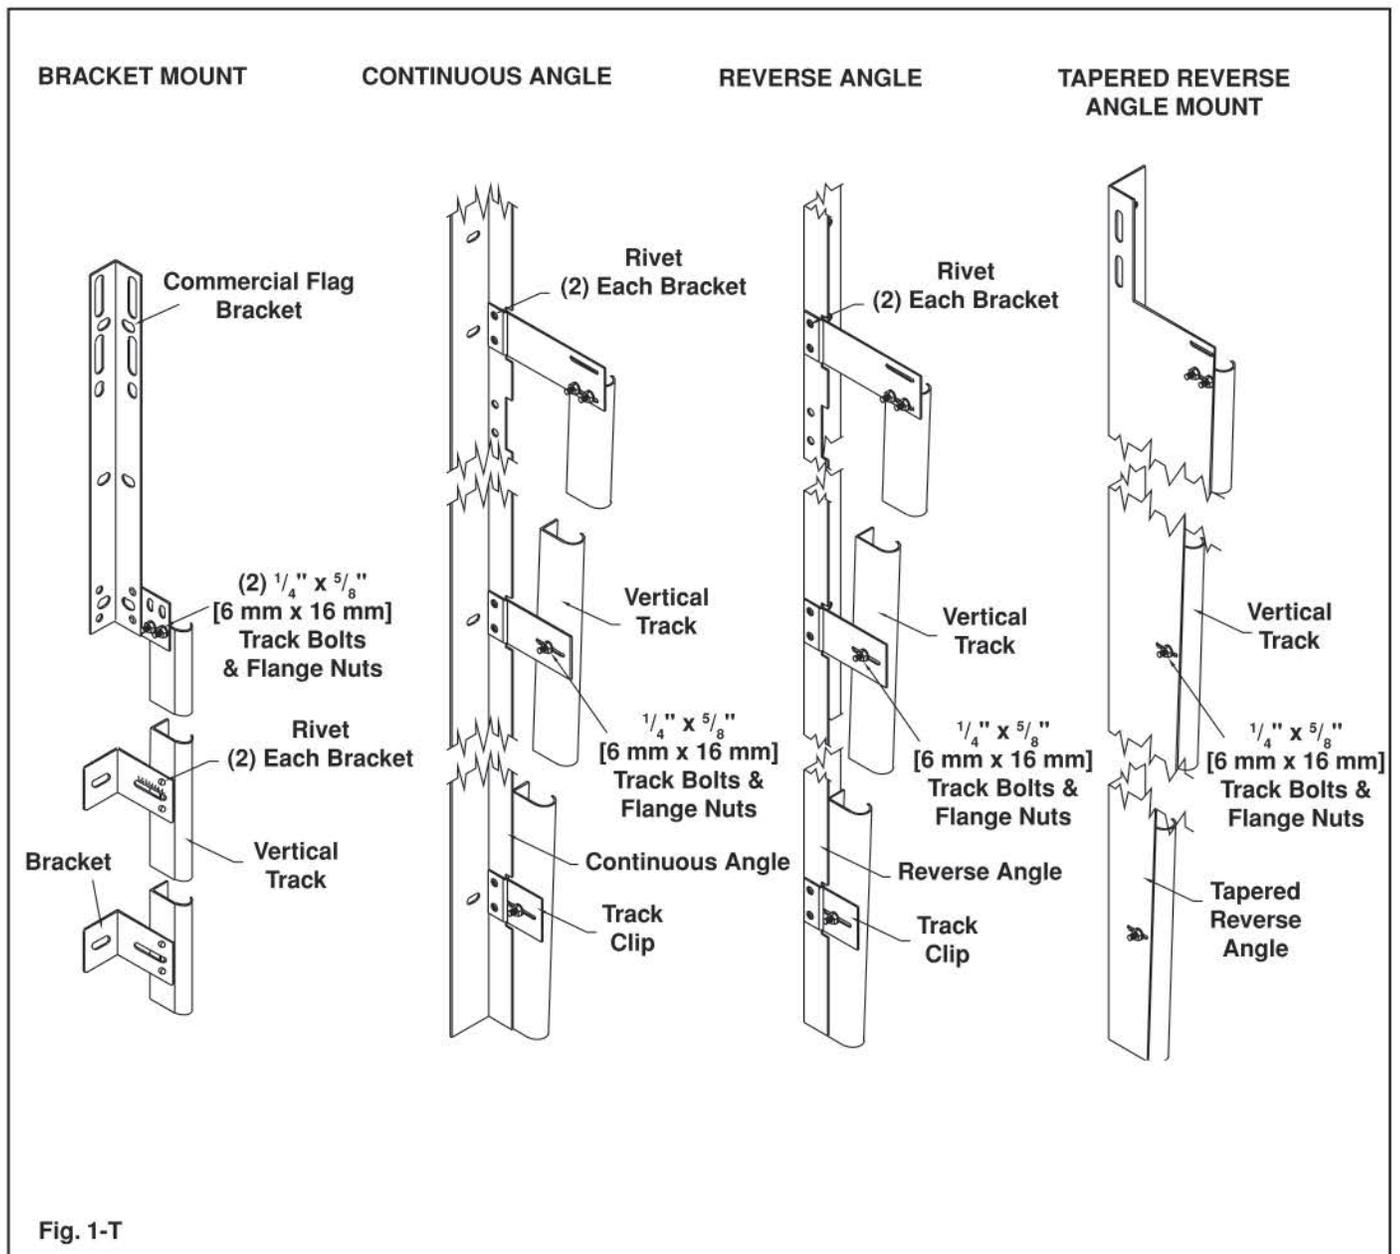

Fig. 1-T
2. Type of lift - Each type of lift is different from the top of the door on up. However, the vertical track from the floor to the top of the door does not change between the different lift options. (FIG. 1-T) Therefore, the vertical track instructions to the top of the door are explained in one group (Step 1). Then turn to your specific type of lift for completion of the installation.
3. Type of mounting - Bracket mounting is used on lighter doors with wood jambs. Brackets are loose or riveted into place. Loose brackets are attached to the track with (1) $\frac{1}{4}$ " x $\frac{5}{8}$ " [6 mm x 16 mm] track bolt and nut per bracket. Continuous angle and reverse angle track are shipped with mounting angle attached. Loosen nuts on track bolts so track will slide on the angle. (FIG.1-T)